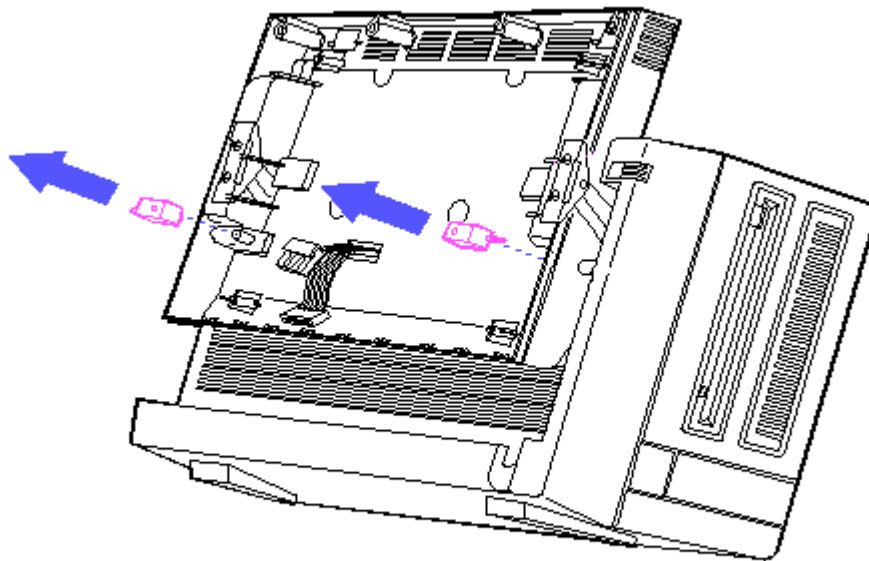

Figure 8-84. Removing the Mandrels
7. Remove each mandrel from the display enclosure by pushing the mandrel toward the plasma display and lifting it out (Figure 8-84).